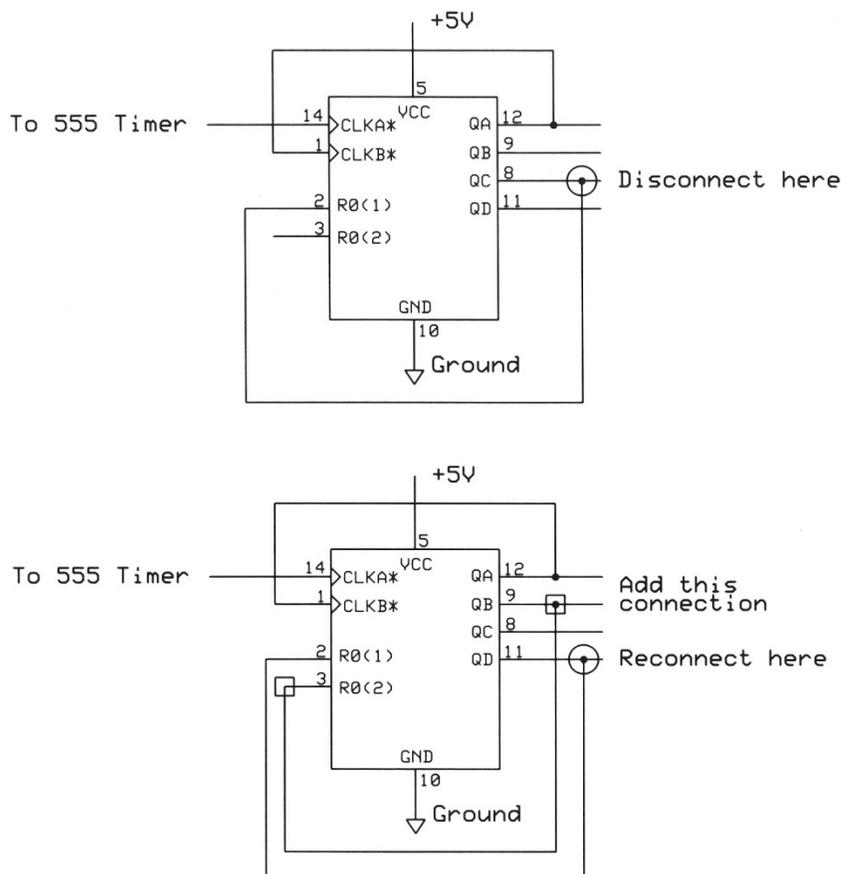

Figure 3.16.
- Then I connected the QB output (pin 9) to the R0(2) reset input (pin 3),
- And I connected the QD output (pin 11) to the R0(1) input (pin 2), as shown in **Figure 3.16**.
Now when the QB output AND the QD output both become logic-1 – the counter's outputs changes from 1001_2 to 1010_2 – the counter immediately resets back to 0000_2 . If you didn't choose these connections, remove your connections to the reset inputs and make the connections shown in **Figure 3.16** and turn on power. Your counter should now cause the display to show, ...7, 8, 9, 0, 1, 2, and so on. You should not see any of the unusual symbols on the display.